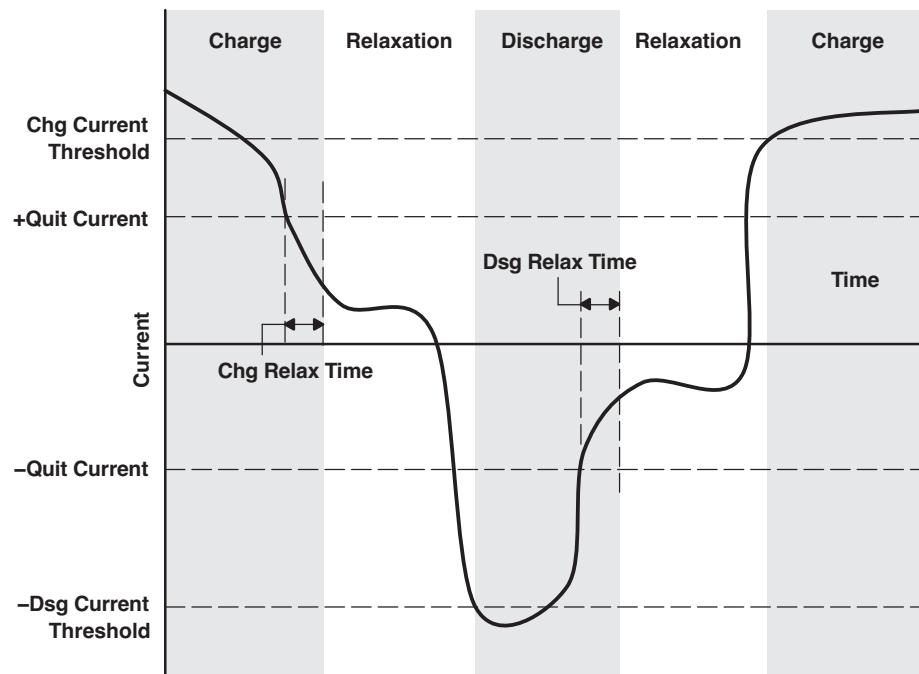

Figure 14. Example of the Algorithm Operation Mode Changes With Varying SBS.Current()
The algorithm differentiates between *charge*, *discharge*, and *relaxation* modes of operation. During *charge* mode, the SBS.OperationStatus() [DSG] bit is cleared, and during *discharge* and *relaxation* mode, it is set. Entry and exit of each mode is controlled by Data Flash (DF) parameters in the subclass Gas Gauging: Current Thresholds section as illustrated in Figure 14. Charge mode is exited, relaxation mode is entered when SBS.Current() goes below DF:Quit Current and after a DF:Chg Relax Time period. Discharge mode is entered when SBS.Current() goes below DF:Dsg Current Threshold. Discharge mode is exited, relaxation mode is entered when SBS.Current() goes above –DF:Quit Current threshold and after a DF:Dsg Relax Time period. Charge mode is entered when SBS.Current() goes above DF:Chg Current Threshold.